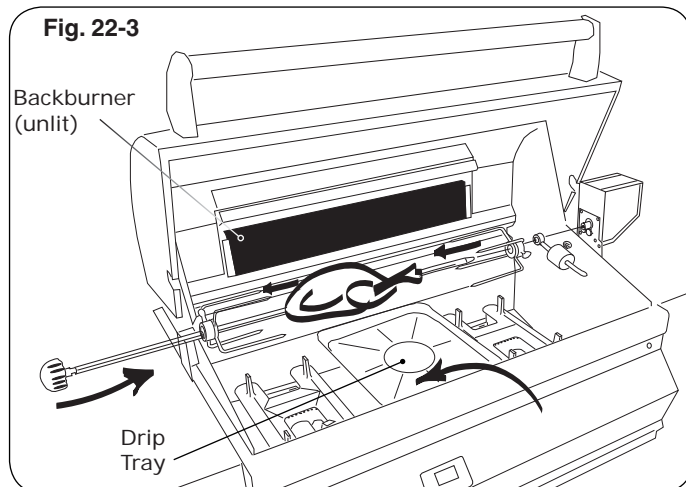

Fig. 22-3
4. Slide left meat holder onto rod as shown in Fig. 22-3 and tighten screw.
5. Slide meat onto rod and into holder (Fig. 22-3).
6. Slide right meat holder onto rod and into meat (Fig. 22-3). Tighten screw.